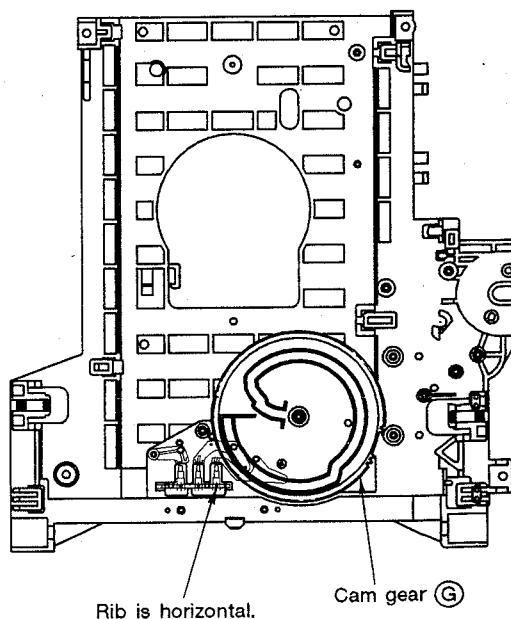

Fig. 2-9
2. Insert the cam gear ⑥ upon directing the rib horizontally as shown in Fig. 2-9.